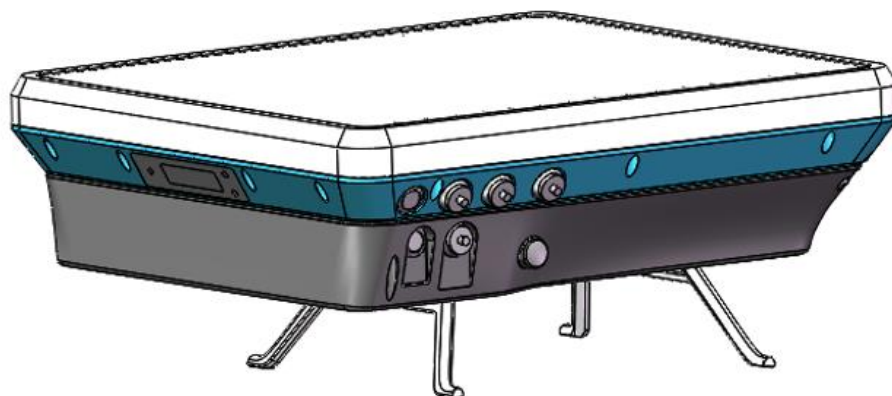

Figure 8-1-4 Position Knob Reset
5. The antenna body is stored in the base as shown in Figure 8-1-4.